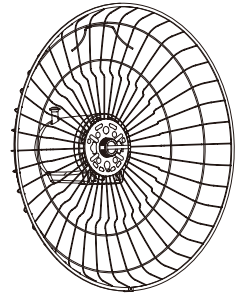
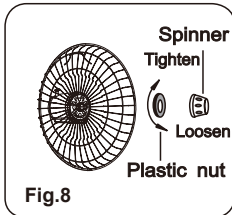

Fig. 7
Fig.8
1. Unscrew and remove the spinner clockwise (or remove from parts bag) and the plastic nut counterclockwise. Fig.8. Mount the rear guard against the motor face so that the pin at the motor face bottom fits through the tear drop hole in the rear guard mounting ring. When correctly mounted the set of two tabs on each side of the motor face will also fit through their designated holes in the mounting ring, and the rear guard will rest flat and evenly on the motor face. Fig.7.